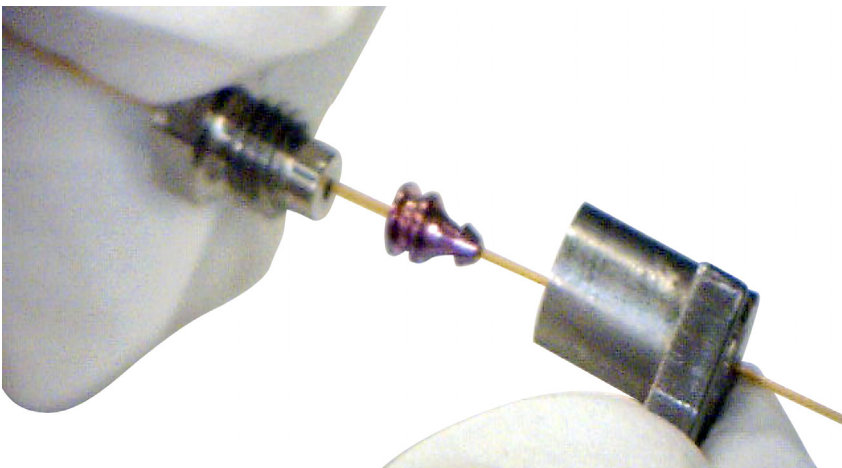

Figure 3 Thread the column through the internal nut, ferrule, and swaging wrench
- 1 Pass the column end through the internal nut, the ferrule, and the swaging wrench (see Figure 3).